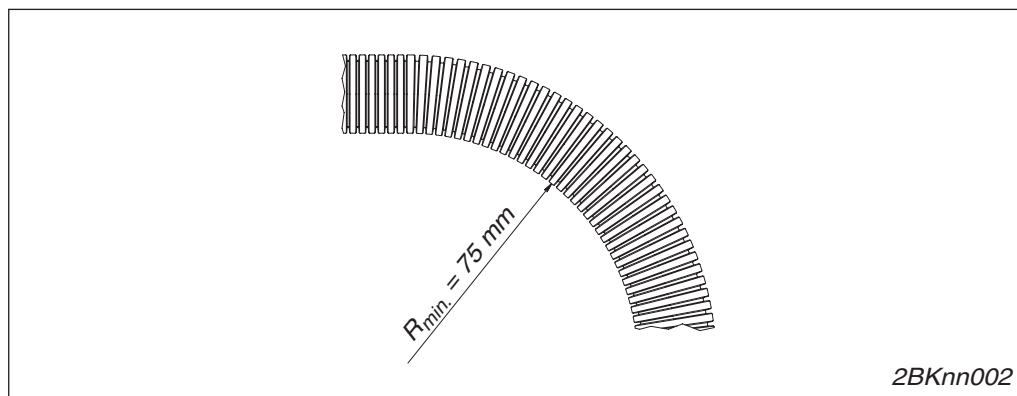

Fig. 2-2 Permissible minimum bending radius
- ☐ The permissible minimum bending radius $R_{min.} = 75 \text{ mm}$ must not be exceeded. The minimum bending radius must be observed on the inside of the cable (→ Seite 2-2, Fig. 2-2).